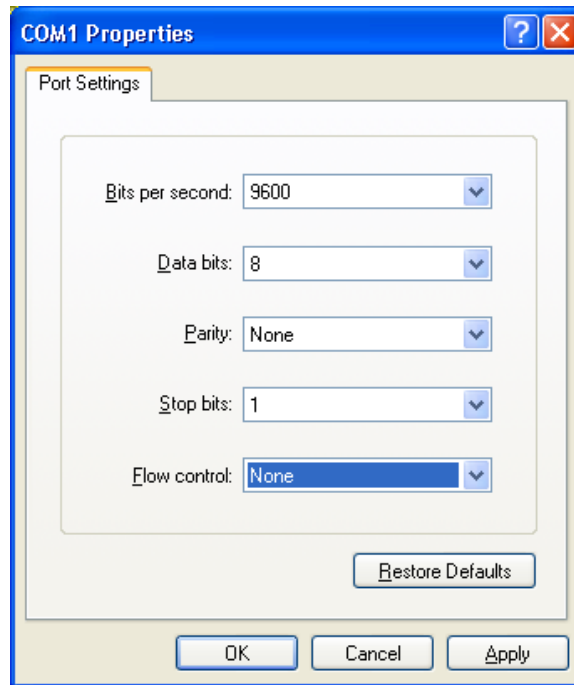

Figure 3. HyperTerminal Settings
4. Set up the COM1 Properties dialog as shown in Figure 3, and click OK.